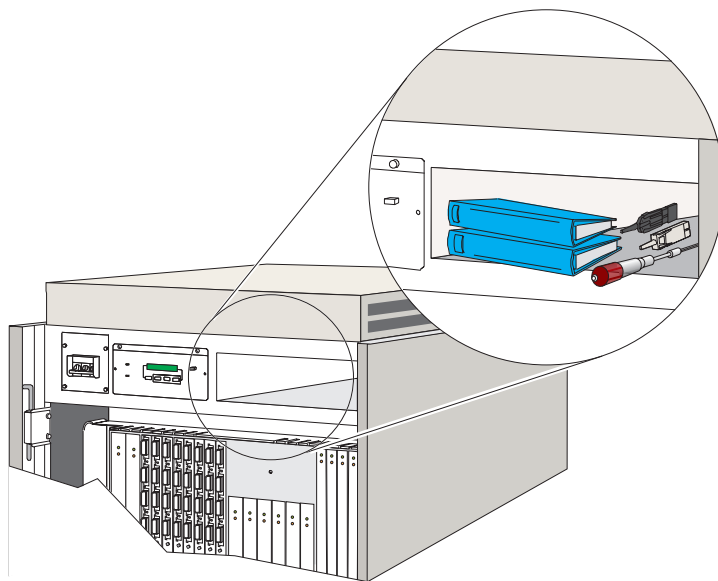

Figure 6-19. Director Storage Compartment
1. Store the following in the Director's storage compartment, inside the front door, to the right of the operator panel (Figure 6-19).
- Store the unused protective plugs in the storage compartment to the right of the operator panel (Figure 6-19).